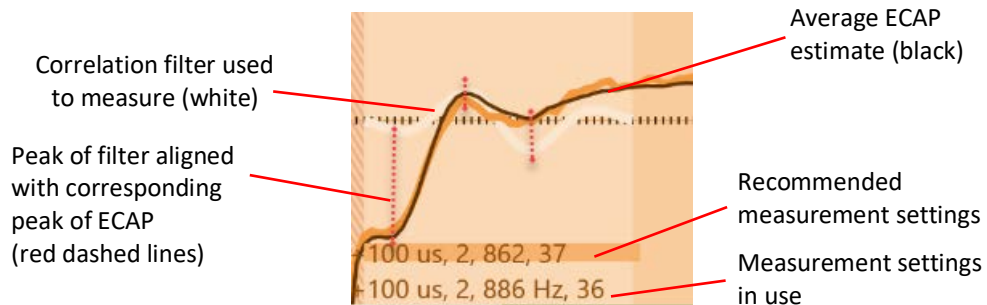
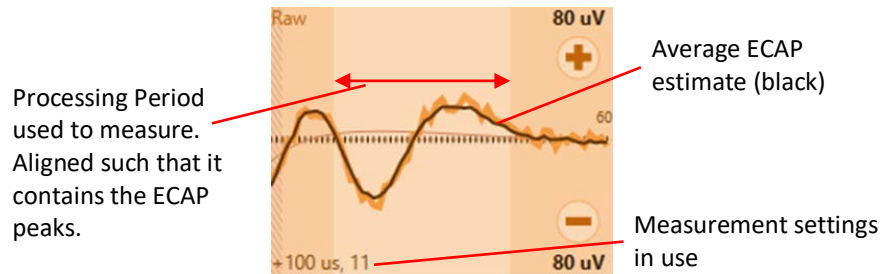

Figure 6.16: ECAP display with a well matched filter (-).
Figure 6.18: ECAP display with a well matched amplitude measurement.
8. Ensure the applied measurement settings match the recommended measurement settings (Figure 6.16), and check that the peaks of the ECAP signal line up with the peaks of the correlation filter. If they don't, you may manually adjust Processing Offset and Filter Frequency until they do (see Section 8.2).
Note: The default filter has a negative first peak (see Figure 6.16). In some cases filter alignment may be improved by flipping the filter the first peak is positive. This is done by changing the measurement setup to 'ECAP calculated using filter (+)' from the Measurement Setup options (see Section 8.2). See Section 6.10.1 for other ECAP measurement options.
within the Processing Period (see Section 8.2) and there will be no recommended measurement settings (see Figure 6.18). For this option, closed-loop may be enabled, and stimulation frequency is available up to 250Hz.
Note: This option should only be used with closed-loop enabled where the peak-to-peak amplitude is not affected by artefact (e.g. Figure 6.18).
The number of samples of the signal to record (see Section 8.2). The Sampling Period (default 3662 μ s) must be greater than or equal to the Processing Offset plus the Processing Period. Consider increasing this if the ECAP signal cannot be optimally measured (i.e. the filter cannot be optimally aligned and/or the complete ECAP signal cannot be seen in the ECAP display) – refer to Figure 6.16 and Figure 6.18 for optimal measurement examples.
The amount of time for the system to wait, following the stimulus pulse, before recording the signal (see Section 8.6). Consider increasing this from default (100 μ s) if the Processing Offset cannot be increased enough for optimal measurement of the ECAP (refer to Figure 6.16 and Figure 6.18 for optimal alignment examples).